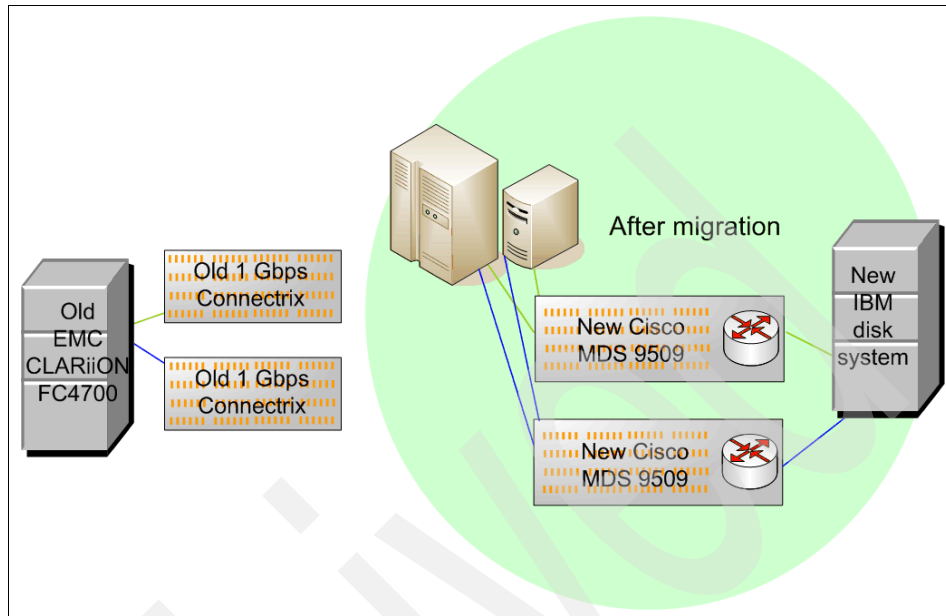

Figure 8-10 Connecting servers to the new fabric and disconnecting the old SAN
4. You can then remove the old fabric and disk system, as shown in Figure 8-10.